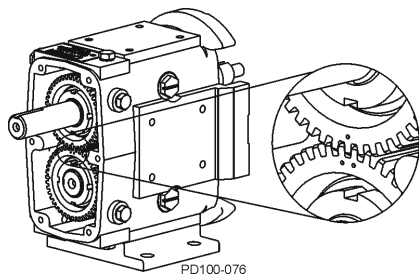

Figure 90 - Timing Gear Marks
3. Slide the short shaft gear onto the short shaft. The short shaft gear has two punch marks on the gear. Straddle the single punch mark of the spur drive gear with the two punch marks on the short shaft gear (Figure 90).